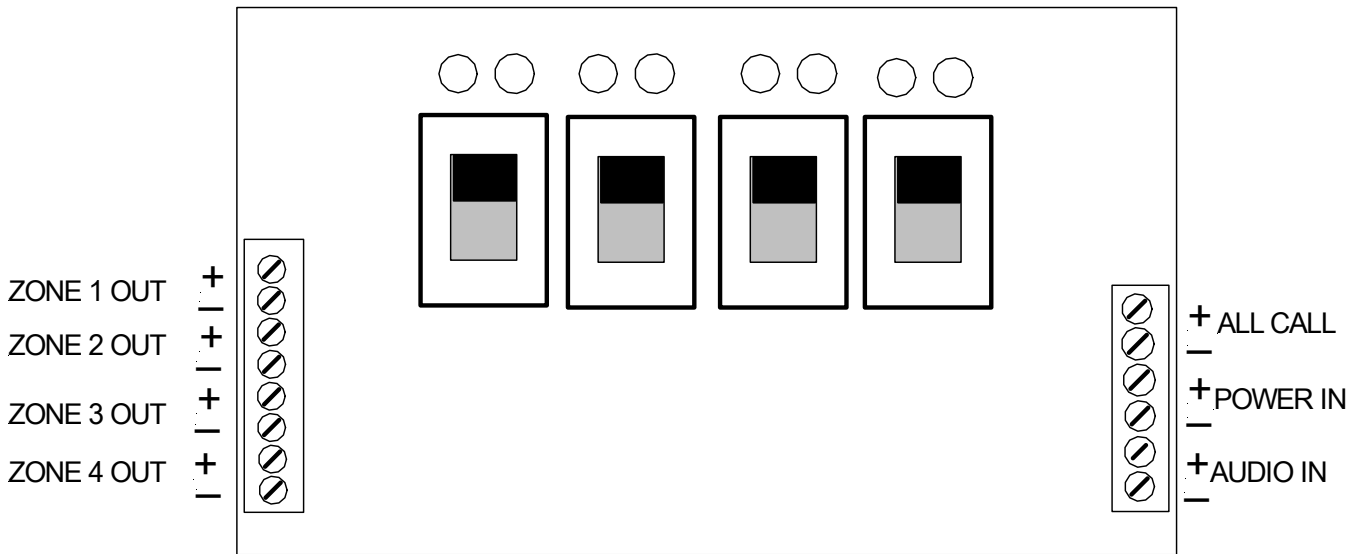

Figure 5:
2. See Figure 5 for terminal block wiring designations.